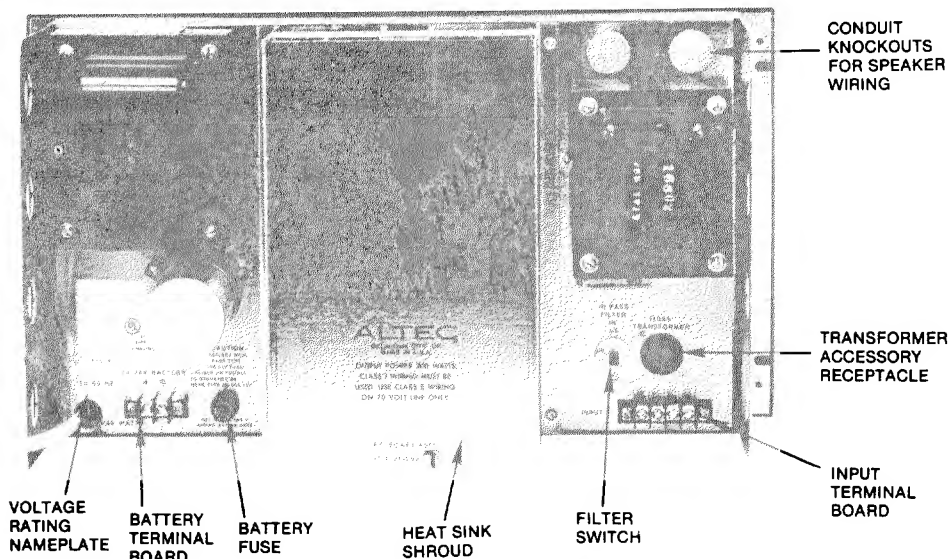
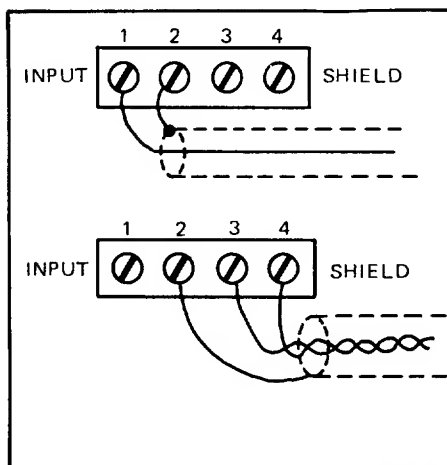

Figure 2. Rear View of 1590 Power Amplifier
Figure 4. Input Connections
4. Select the appropriate voltage rating label from the rating label strip supplied with the amplifier. Affix label over previous voltage rating designation on chassis. See Figure 2.
If desired, the 1590 may be connected to an external 24/28 volt battery with minus (-) as ground. Terminals for the dc power connections are on TB4 (see Figure 2). If ac power fails, transfer to dc power is instantaneous, automatic and silent. The battery power supply is not operated by the primary power ON-OFF switch on the front panel. If switching of battery power is desired, an external relay or switch should be provided by the user.
Input connections may be either direct or transformer-isolated at the INPUT terminal board (TB1) (see Figure 2). Direct coupling is accomplished by connecting the input leads (shielded conductor recommended) to terminals 1 and 2. Terminal 2 is ground (see Figure 4).
For transformer-isolated input, a plug-in 15095A or 15335A Line Transformer must be plugged into receptacle J1 (see Figure 2).
The input leads are connected to terminals 3 and 4 of the INPUT terminal board (see Figure 4).
Output transformer taps provide connections for 25V (140 watts), 30V, 70.7V, 100V, 140V and 200V distribution systems. Class I wiring must be used for 100V, 140V and 200V systems. Class II wiring may be used only for the 30V and 70V systems. Connections are made at terminal board TB2 located within the chassis (see Figure 6). Wiring from the speaker system feeds through the chassis to TB2; 1/2" conduit knockouts in the chassis provide access to output terminals of TB2 and permit termination as required for Class I wiring (see Figure 2).